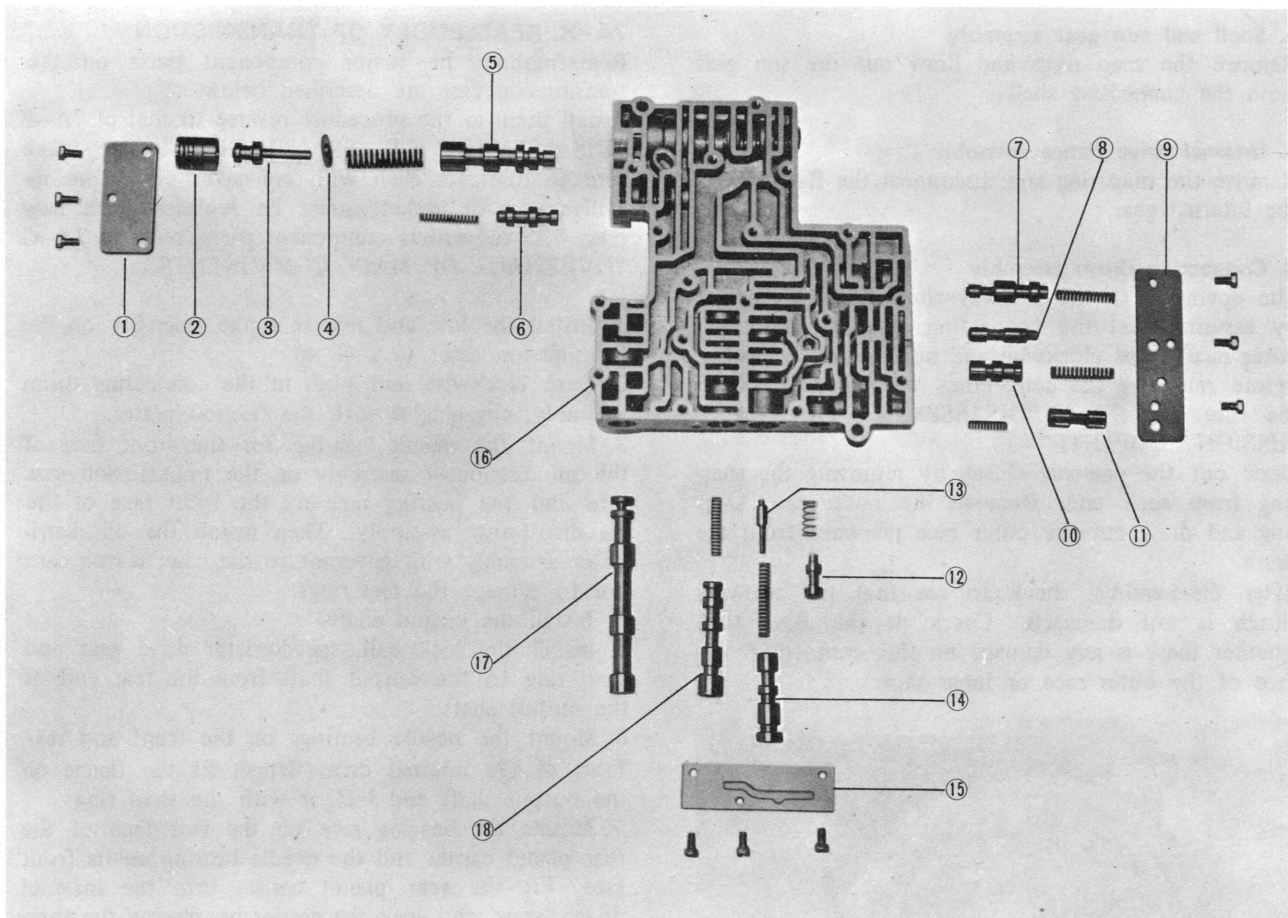

Fig. 7A-42 Component parts of control valve
- a. Install small valves and springs by referring to the components parts of control valve Fig. 7A-42.